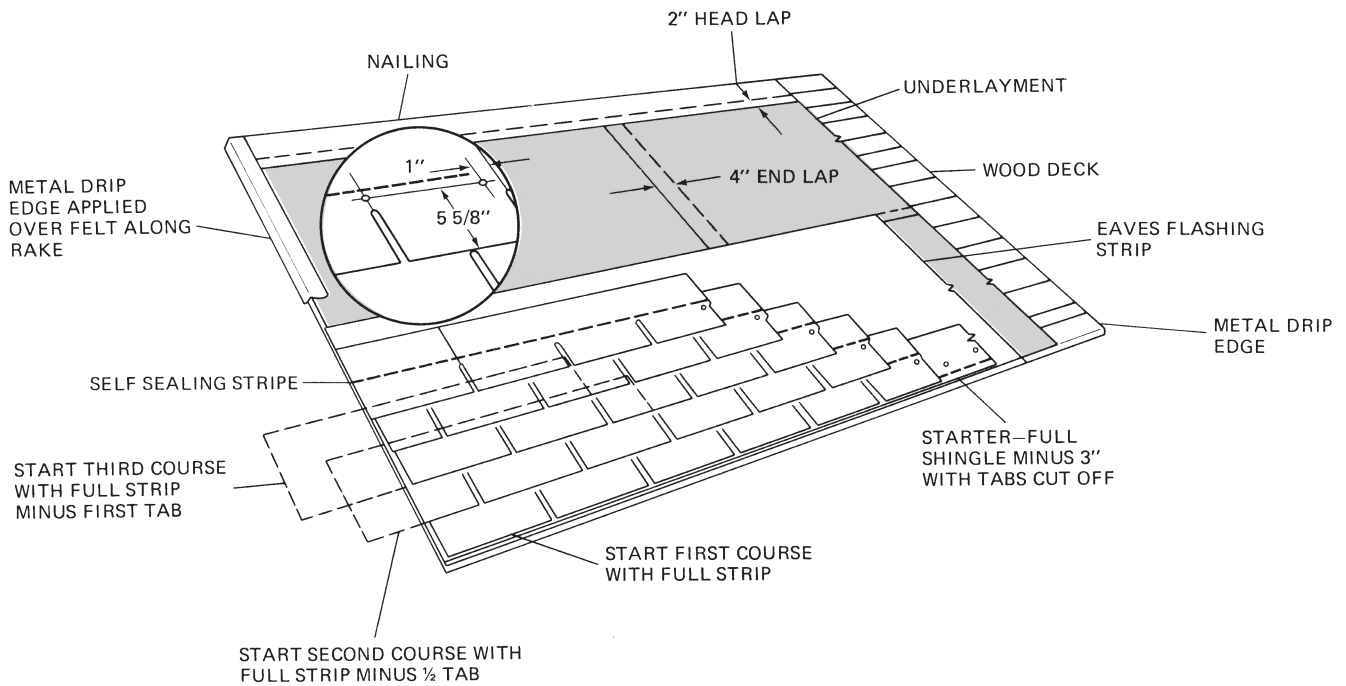

Fig. 8-59 Applying three-tab square-butts strips so that cutouts are centered over the tabs in the course below. (Bird and Son.)
2. Cutouts break at joints on the halves (Fig. 8-59).